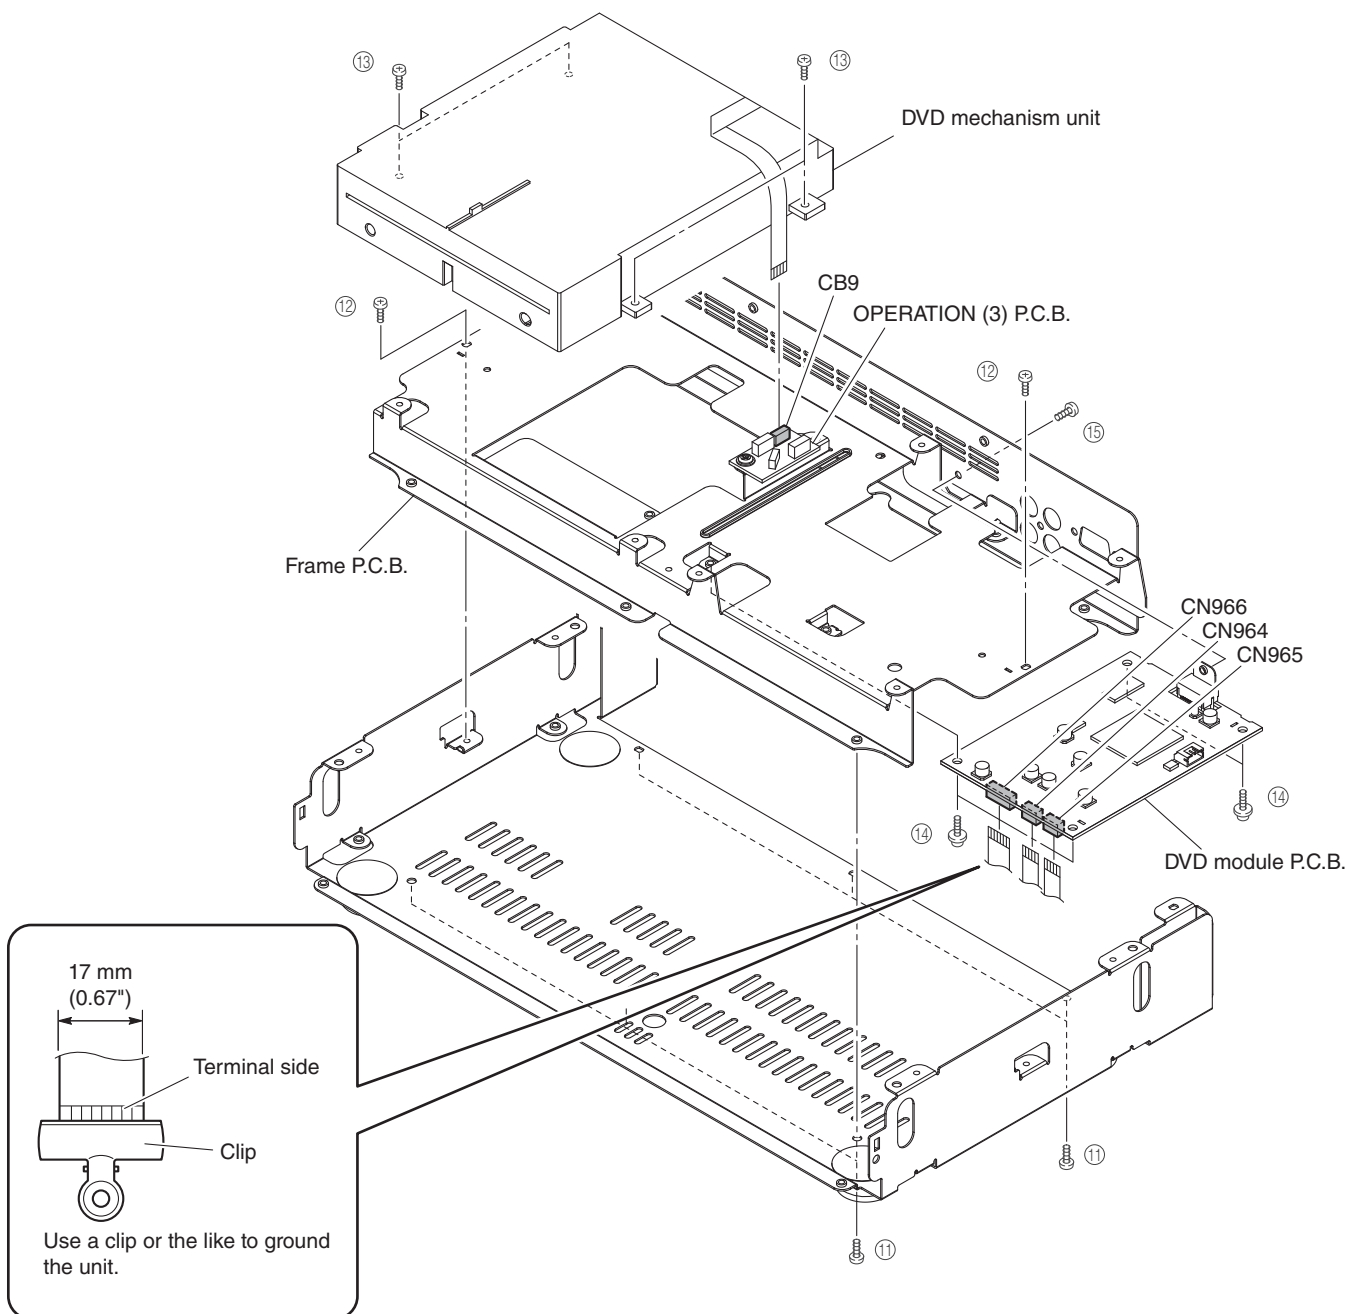

Fig. 5
- Remove 6 screws (⑪) and 2 screws (⑫). (Fig. 5)
- Remove the DVD mechanism unit , DVD module P.C.B. and frame PCB together. (Fig. 5)
- Remove CB9 and CN965. (Fig. 5)
- Remove CN966, and ground the terminal side of the flexible flat cable with a clip or the like. (Fig. 5)
- Remove 4 screws (⑬). (Fig. 5)
- Remove the DVD mechanism unit. (Fig. 5)
- Remove 4 screws (⑭) and screw (⑮). Fig. 5)
- Remove CN964. (Fig. 5)
- Remove the DVD module P.C.B.. (Fig. 5)